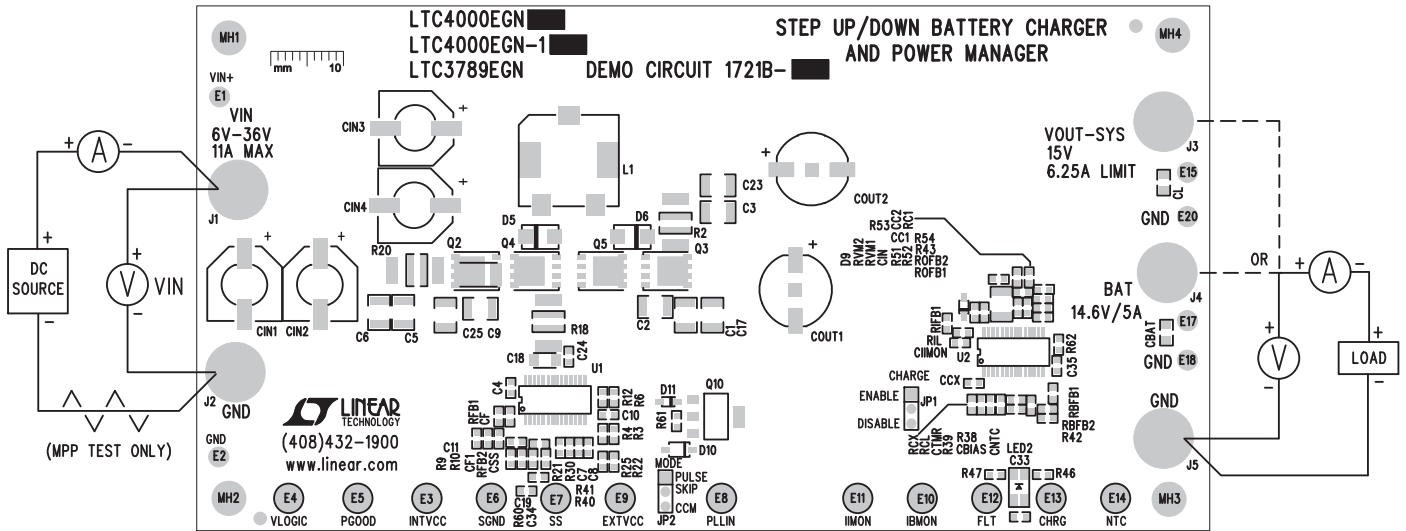

Figure 1. Proper Measurement Equipment Setup
Demonstration circuit 1721 is easy to set up to evaluate the performance of the LTC4000/LTC3789. Refer to Figure 1 for proper measurement equipment setup and follow the procedure below:
NOTE. When measuring the output voltage ripple, care must be taken to avoid a long ground lead on the oscilloscope probe. Measure the output voltage ripple by touching the probe tip and ground ring directly across the last output capacitor as shown in Figure 1.
- b. If efficiency measurements are desired, refer to Figure 1 for test setup.